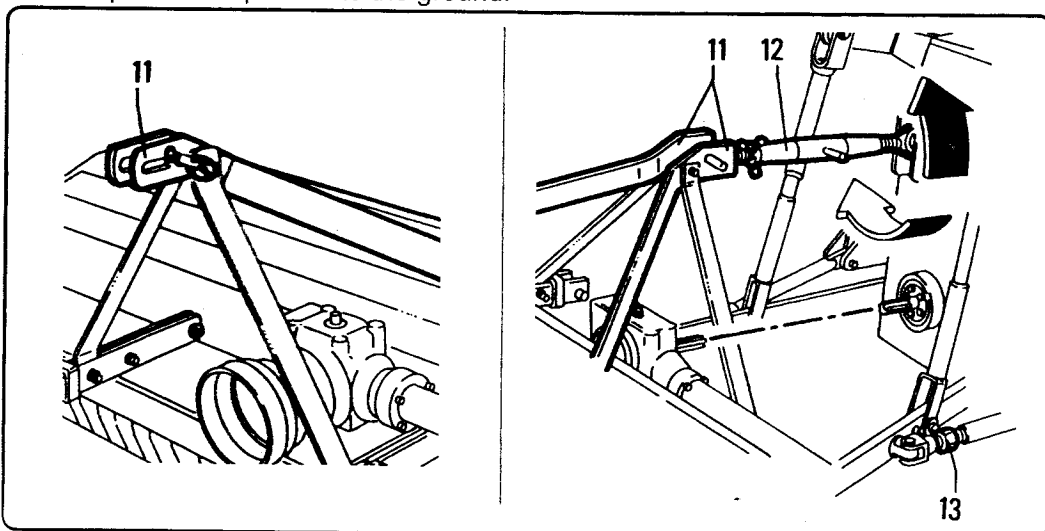

fig. 4.2.2
- Fix the upper rod "12" fig. 4.2.2 of the three-point hitch "11" and adjust it until the pto of the implement is parallel to the ground.